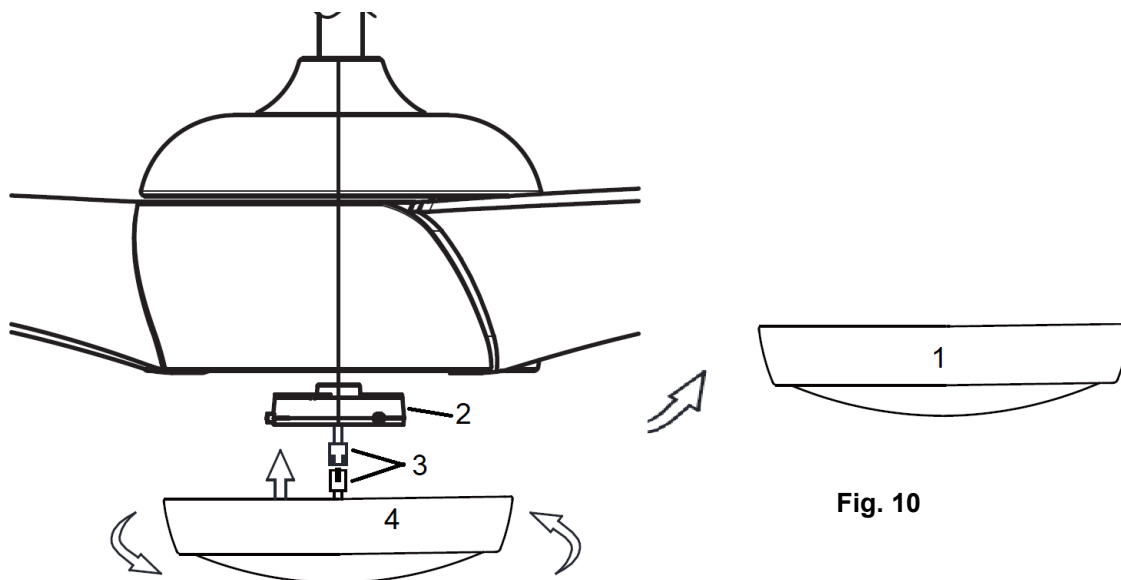

Fig. 10
- Install the 3V DC battery in the compartment. Please make sure the polarity of the battery is correct. Fig.10
BATTERY INSTALLATION Fig. 10
1. Battery CR2032 is pre-installed in the remote. For first time use of the remote, remove the battery film before use. (Fig. 10 a)
1. To replace a new battery, Press the top of the battery compartment cover and loosen the screw in the same time further to remove the battery compartment cover (Fig. 10 b).